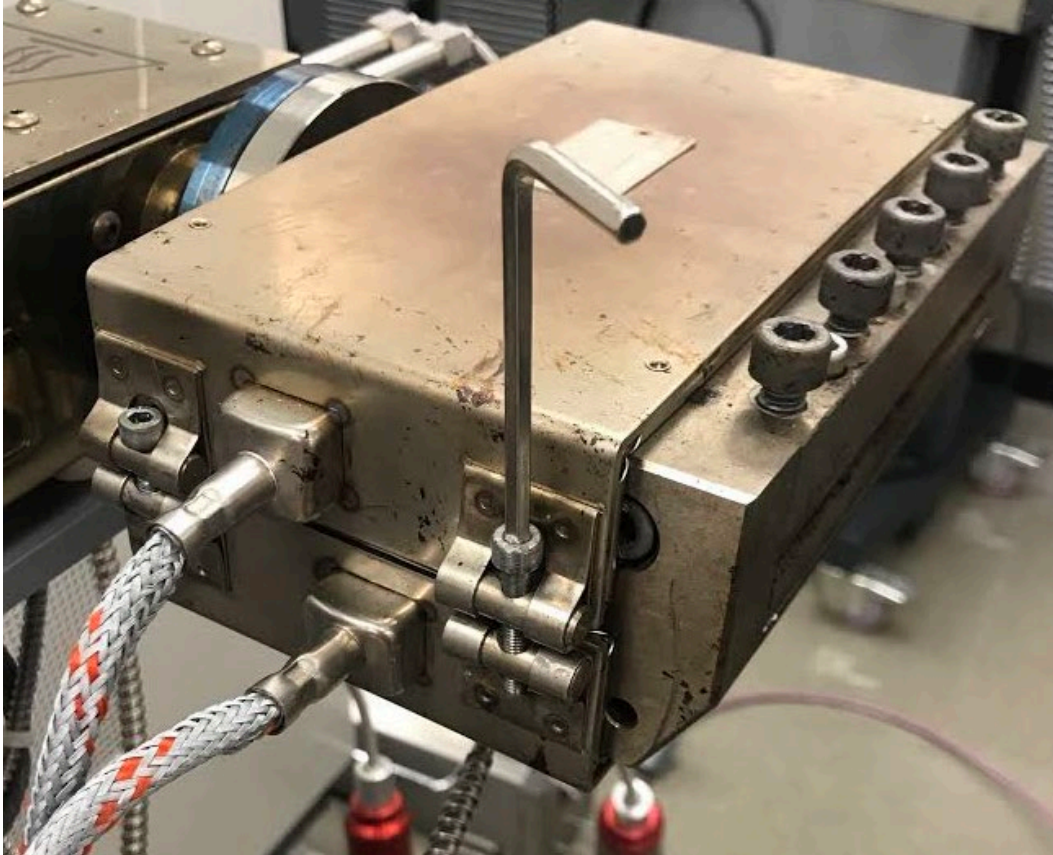

Fig. 6 Heater band on the die prior to removal
- c. Unscrew the four bolts that hold the heating band to the die (Fig. 6).